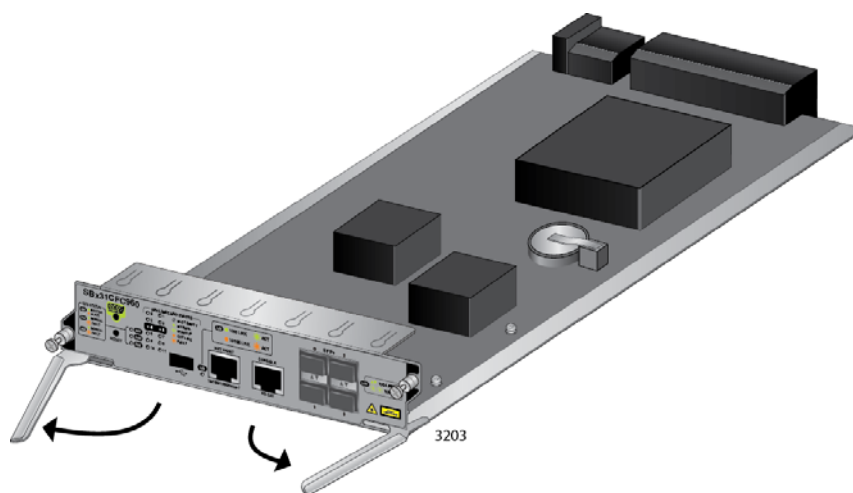

Figure 69. Opening the Locking Handles on the AT-SBx31CFC960 Controller Fabric Card
5. Move the locking handles on the front panel to the open position, as shown in Figure 69.